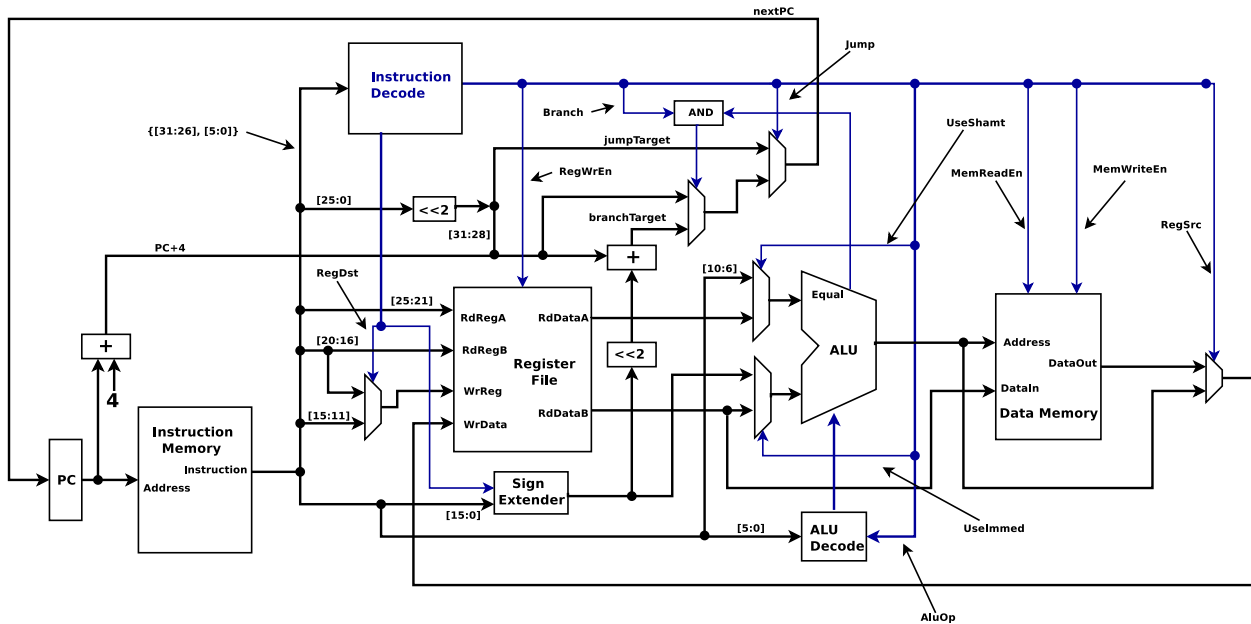

Figure 1: Single-cycle MIPS Block Diagram
Figure 1 shows a block diagram of the single-cycle MIPS processor you will design in lab. The register file, decoder, ALU, and ALU control should have been described in individual VHDL components during previous lab exercises. The remaining datapath items depicted in Figure 1, with the exception of the instruction and data memory, will be described in a single VHDL file (`SingleCycleProc.vhd`) in this lab. The ports to the instruction and data memory will be brought out of the `SingleCycleProc` component and instantiated in a top-level file provided for you. For the single-cycle design, you will not support a *branch delay slot*. We will add this support in when we pipeline our processor.
1. Describe the datapath depicted in Figure 1 using the skeleton code provide below as a starting point. PC in your design should be set to 0 when Rst\_L goes low and a rising edge of the Clk occurs. In other words, 0 is the reset address of your processor, and Rst\_L is an active-low, synchronous reset.